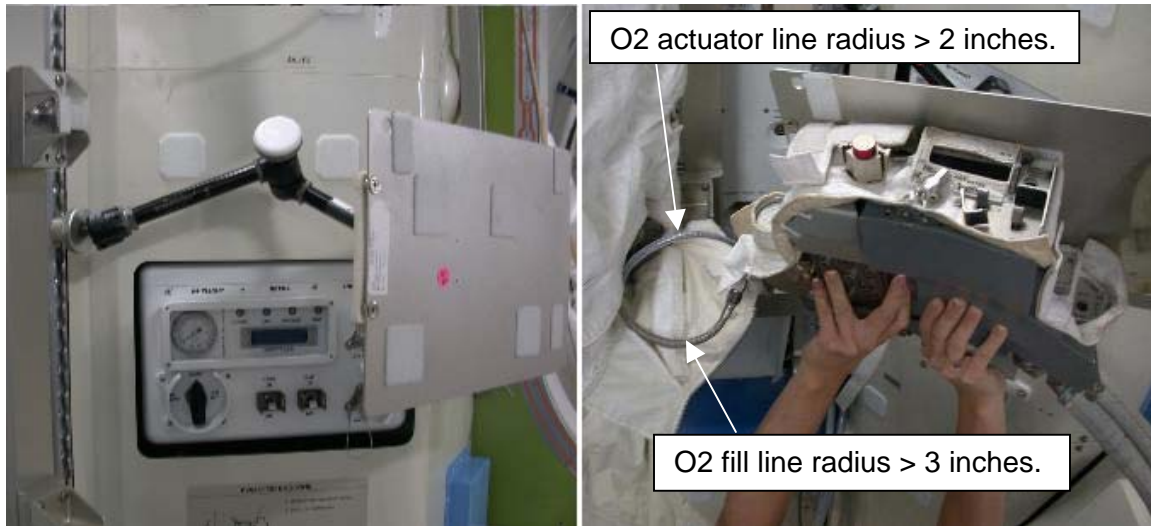

Figure 4.- DCM Restraint Using PCS Mounting Bracket.
14. Carefully rotate and restrain DCM on PCS Mounting Bracket. Refer to Figure 4.